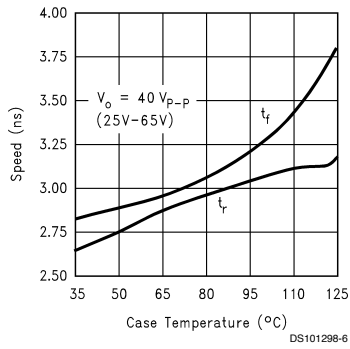

FIGURE 4. Speed vs Temp.
*Figure 4* shows the performance of the LM2412 in the test circuit shown in *Figure 2* as a function of case temperature. *Figure 4* shows that both the rise and fall times of the LM2412 become slightly longer as the case temperature increases from 40°C to 125°C. In addition to exceeding the safe operating temperature, the rise and fall times will typically exceed 3 nsec. Please note that the LM2412 is **never to be operated over a case temperature of 100°C**. In addition to exceeding the safe operating temperature, the rise and fall times will typically exceed 3 nsec.